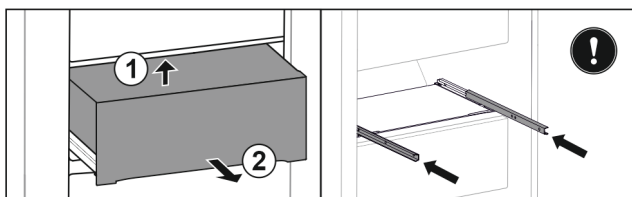

Fig. 43
- ▶ Nadvihnite ju zospodu dozadu Fig. 43 (1).
- ▶ Odoberte ju dopredu Fig. 43 (2).